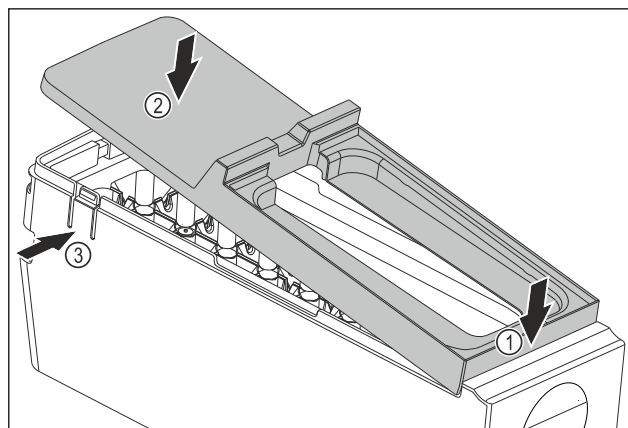

Fig. 137
- Installing the cover of the EasyTwist-Ice body: Fit the cover at the front. Fig. 137 (1)
- Lower the cover at the rear. Fig. 137 (2)
- ▷ The cover snaps audibly into place in both tabs Fig. 137 (3).